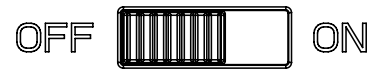

Fig. 8
Step 1. Make sure that the **OFF/ON** switch on the face of the transmitter is set to "**OFF**" (Fig. 8), then restore power to the fan at the circuit breaker or fuse box.